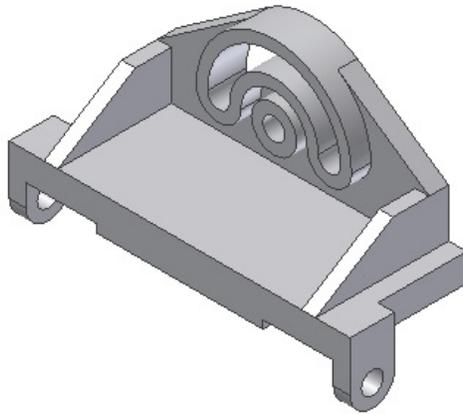

Figure 6-128 Model after mirroring the features
- f. Mirror the rib and the join feature on the left of the model, refer to Figure 6-128.
6. Right-click on the work plane in the **Browser Bar** to display the shortcut menu. Choose the **Visibility** option from the shortcut menu to turn off the visibility of the work plane. The model after mirroring the features is shown in Figure 6-128.